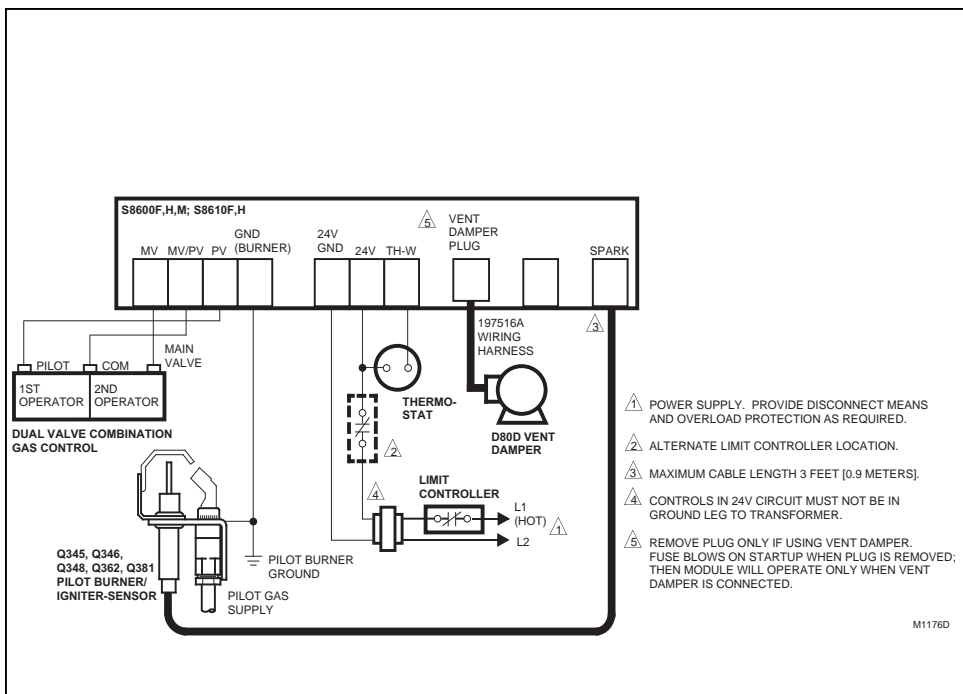

Fig. 2—S8600F,H,M; S8610F,H with a vent damper plug in a heating system with an atmospheric burner and a D80D vent damper.
- Fig. 2 shows S8600F,H,M; S8610F,H with vent damper plug in a heating only atmospheric burner system with D80D vent damper. *Never use a vent damper in an LP gas system or in a fan-assisted combustion system.*